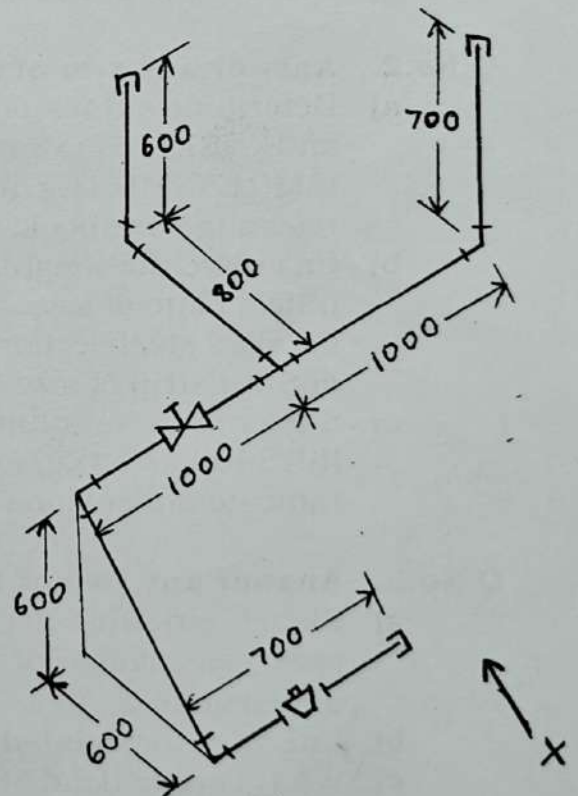

Fig 4. Q.6(c)
- a) Sketch a screwed pipe joint (03)
- b) Sketch single line diagram for reducer, globe valve and coupling (03)
- c) Draw the orthographic views(FV,TV,SV) of portion of pipeline whose isometric view is shown in fig.4. (09)